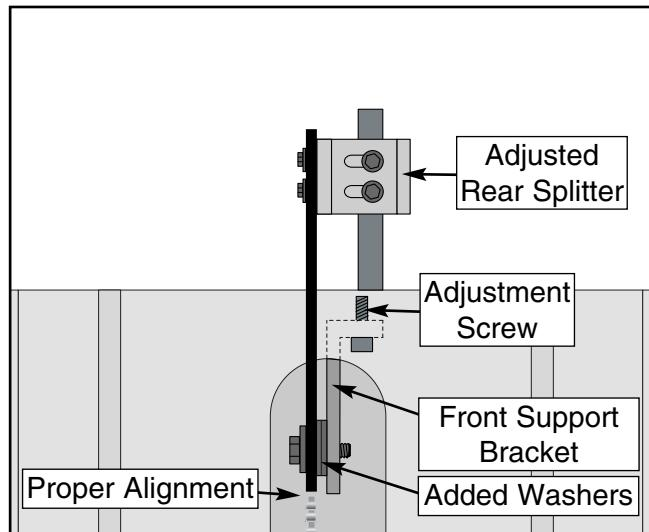

Figure 41. Proper splitter/blade alignment.
12. If the splitter is positioned to the left of the blade, alignment cannot be achieved by washer placement. Adjustment of the front support bracket is required as shown in **Figure 41**. Loosen the adjustment screws and move the front support bracket to the right.